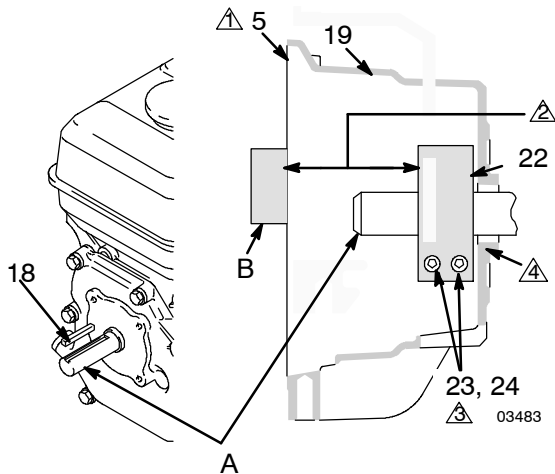

Fig. 7
1. Fig. 7. Loosen two screws (16) on clamp (8),
2. Push screwdriver into slot in clamp (8) and remove clamp.
1. Fig. 7. Install engine shaft key (7).
2. Tap clamp (8) on engine shaft (A) with plastic mallet.
3. Press clamp (8) onto engine shaft (A). Maintain dimension shown note 2 in Fig. 7. Chamfer must face engine.